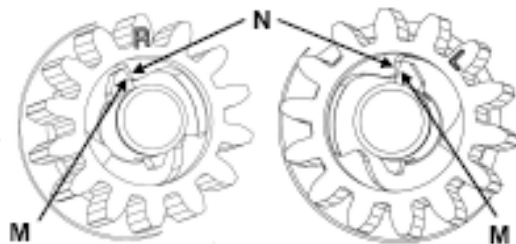

Figure 20.
Note: The pinion gear (H) is marked “R” on one side and “L” on the other. The pinion gear (H) is to be fitted with the “R” displayed when fitted on the right hand drive side of the mower and with the “L” displayed when fitted on the left hand drive side. Refer to figure 20.
Note: The pawl must always be orientated so that the side with the large flat face (M) will come in contact with the flat faces inside the pinion gear (N) The orientation is important to ensure that the pawl will drive the pinion gear when the clutch is engaged). Refer to figure 20.
- Replace the wheel and retain using the tension washer and the nyloc nut (K). Tension the nut just enough to remove the side to side movement of the wheel.
- Replace the wheel caps (A) and the spark plug lead and lower the wheels to the ground.